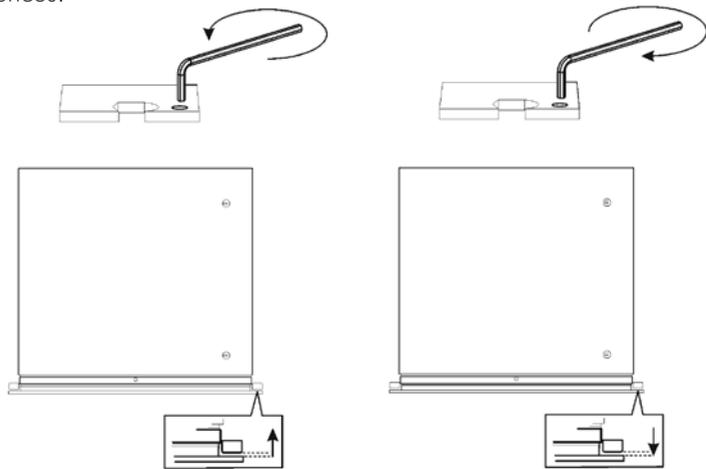

Fig. 5
- Use a 5 mm hex wrench to regulate the drawer fastening mechanism. Turn it clockwise to move the drawer outwards, turn it anticlockwise to move the drawer inwards (Fig. 5)
If the **width of the recess is 560 mm**: there is no need to place shims behind the plate of the guides. (Fig. 5)
Fix the brackets with the runners to the unit using 2 screws in the slotted holes. (Fig. 5)